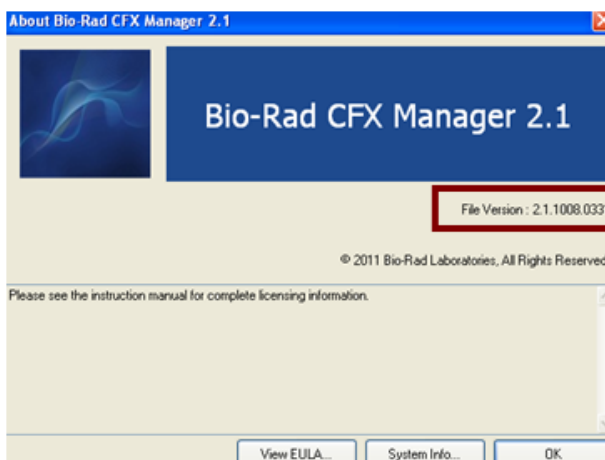

Fig. 4. Installed software version displayed in the **About Bio-Rad CFX Manager** window.
2. The **About Bio-Rad CFX Manager** window displays the installed software version (Figure 4).